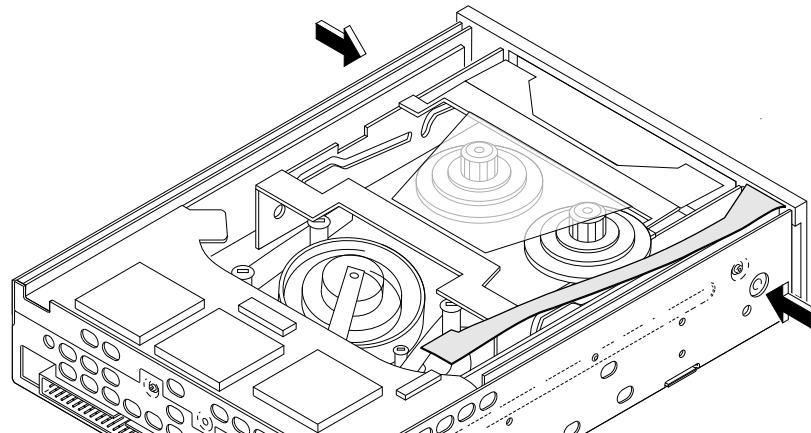

Figure 3 Removing the faceplate
4. Press in the faceplate tabs on both sides of the tape drive, as shown in Figure 3. Pull the faceplate straight out from the tape drive.